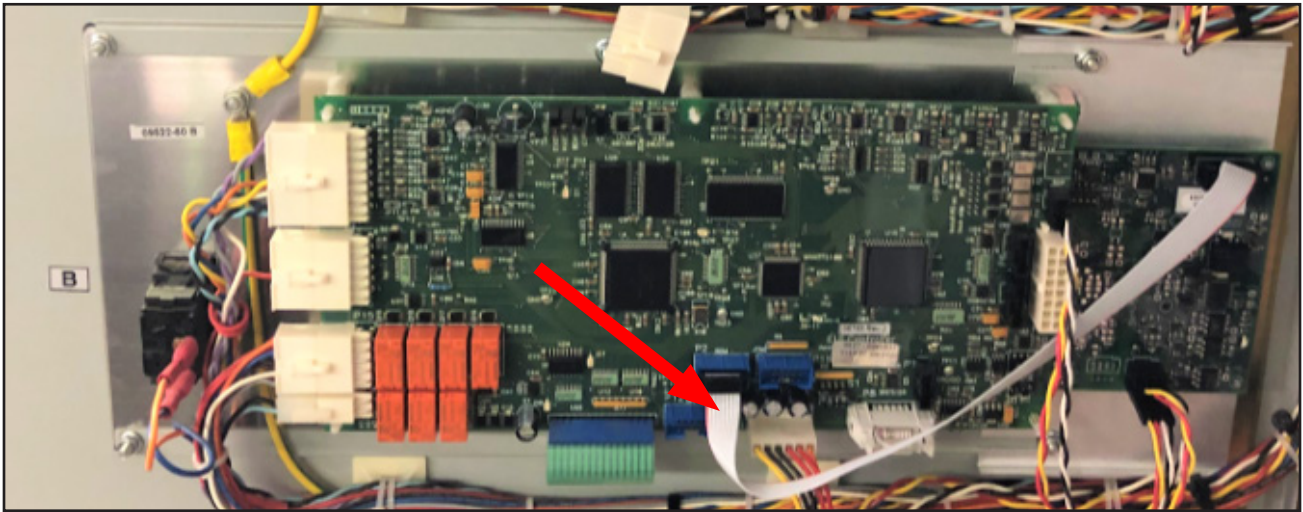

Figure 16 CAN Board Connected to the 5VDC Supply at Port P2 on the Channel B of DVS100/DVS150 Control Board with the Ribbon Cable.
14. Connect the DVS100/DVS150 CAN board ribbon cable connector to port P2 on the Channel B of DVS100/DVS150 control board (Figure 16).